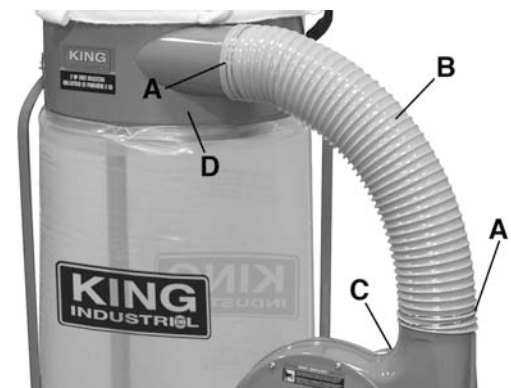

FIGURE 10
7. Slide hose clamps (A) Fig.10 onto each end of the hose (B). Attach hose between the fan housing (C) and the main housing (D). Tighten clamps to secure hose using a screwdriver.